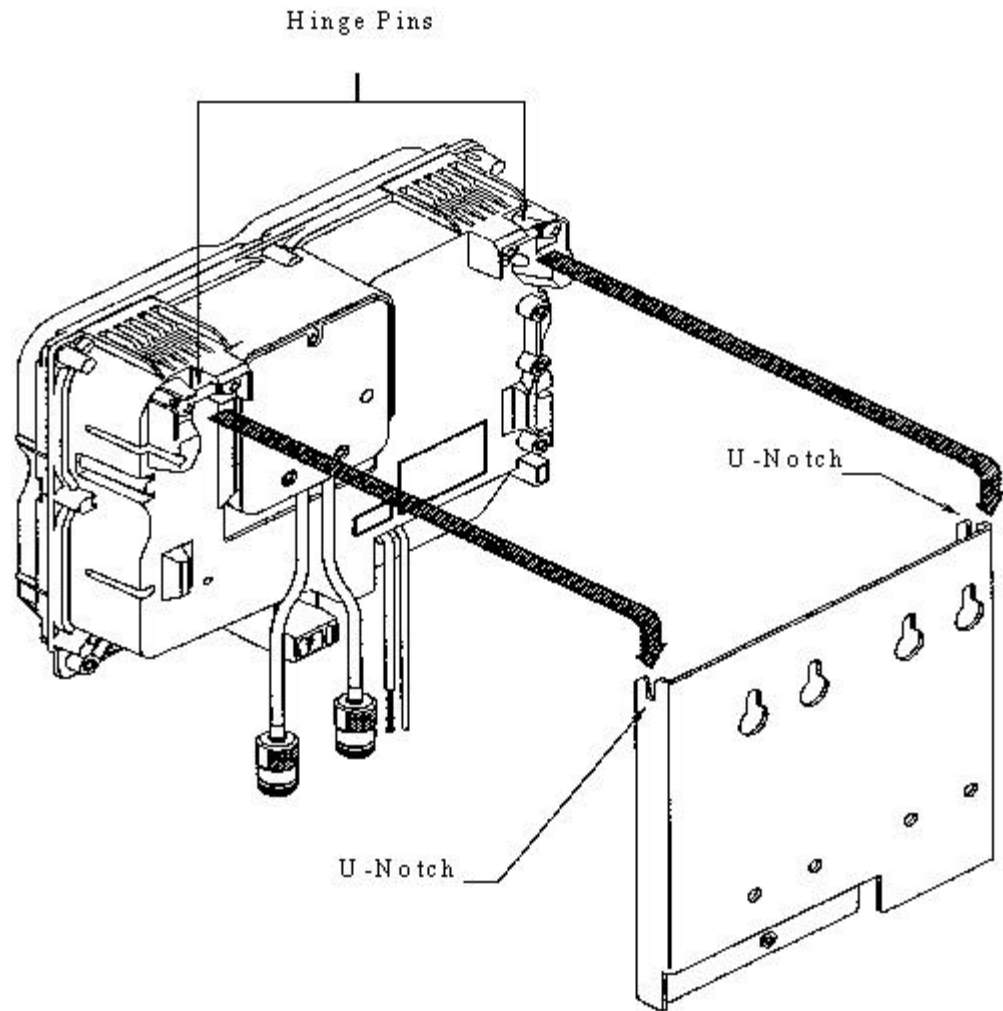

Figure 3-17: Mount Main Unit
5. Mount main unit on the mounting plate. Position both the hinge pins in the u-notches on the mounting plate. Refer to Figure 3-17. Do not fasten with the screws right now. The antenna cables must be connected first.